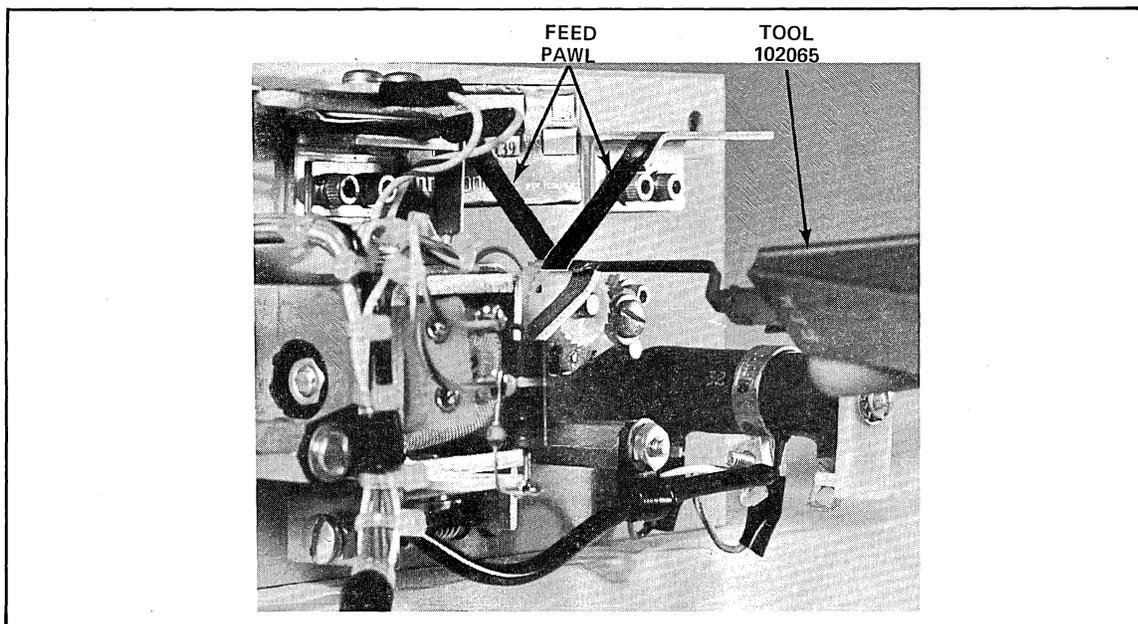

Figure 6-8 Feed Pawl Tension Adjustment
- (1) The blade tension of the feed pawl against the ratchet is 95 grams. See Figure 6-8. This is measured at the tip of the pawl and is the gram tension required to start moving pawl away from the ratchet. Use 50 - 250 gram gauge (see Table 7-1).